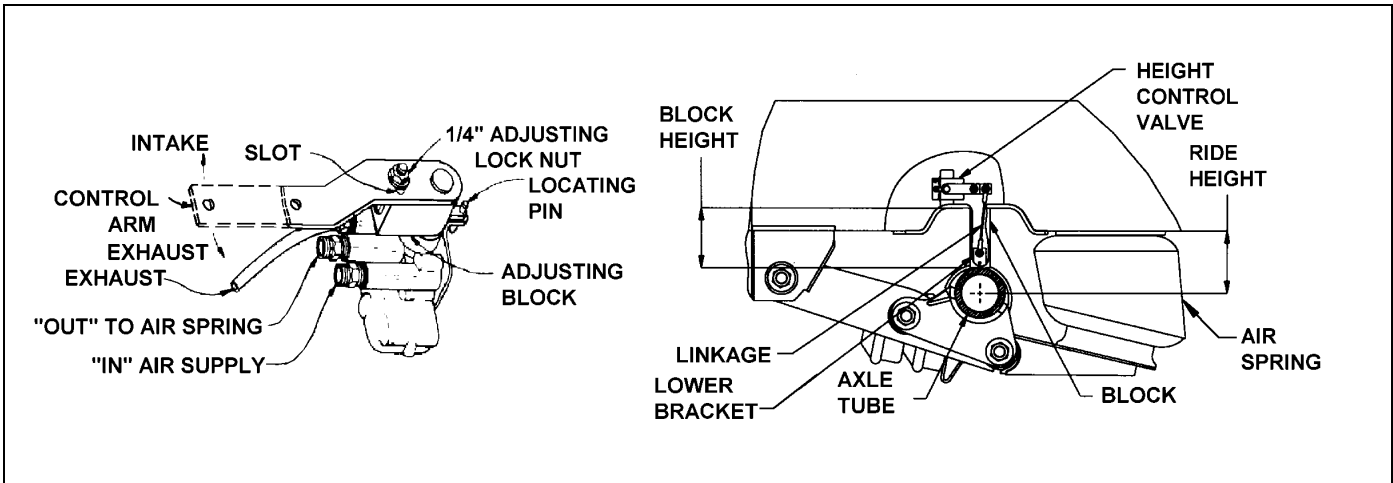

Figure 4-2: Air Ride Height Adjustment
(See Figure 4-2 for parts identification)
2. Disconnect linkage at the control arm and raise control arm to the "up" position, raising the trailer until a block can be placed between axle tube and undercarriage frame (**See Figure 4-2.**)
6. Loosen the 1/4" adjusting lock nut located on the adjusting block, allowing the control arm to move approximately 1 inch. Move the adjusting block until holes align, then insert locating pin **(See Figure 4-2.)**